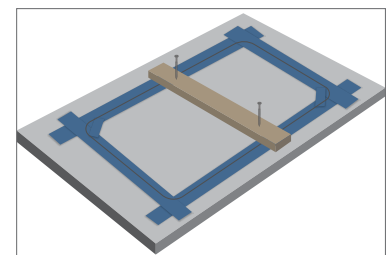

Fig.5
- Ensure the benchtop is properly supported before you commence cutting the cut-out, making sure the waste part of the benchtop is supported at all times. (see Fig. 5)